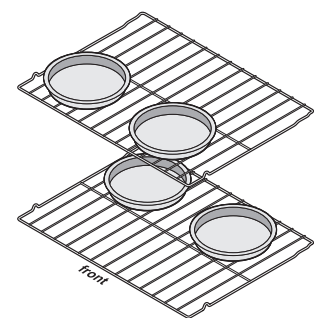

Figure 14: Pan spacing
- When baking using two oven racks, position cookware as shown in Figure 14. Allow at least 2 inches (5 cm) of space between cookware for proper air circulation.